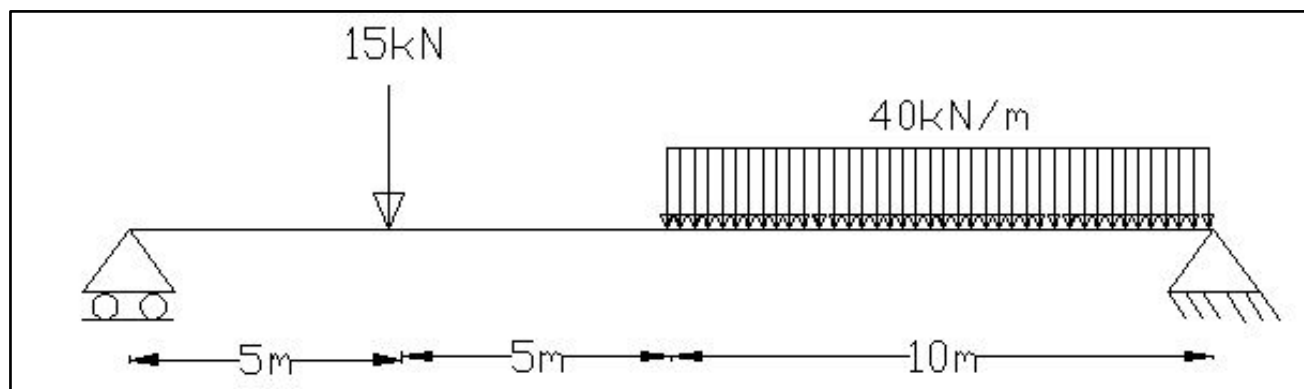

Fig.4
4. (a) Develop the shear force and bending moment diagrams of the following beam (ref. Fig.4).